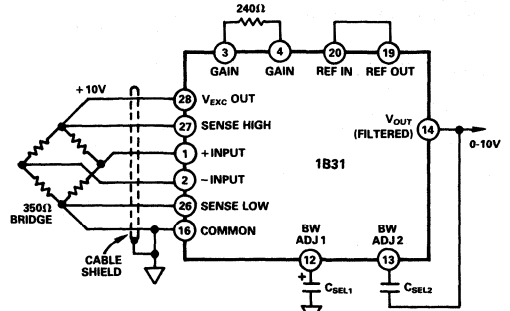

Figure 3. Narrow Bandwidth Application
**Filter Cutoff Frequency Programming:** The low pass filter cutoff frequency is internally set at 1kHz. It may be decreased from 1kHz by the addition of two external capacitors connected as shown in Figure 3 (from Pin 12 to common and between Pins 13 and 14). The values of capacitors required for a desired cutoff frequency, fC, below 1kHz are obtained by the equations below: